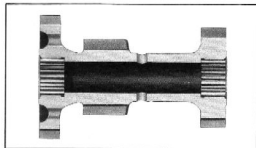

Fig. 11—Countergear Roller Bearings
1. Coat the roller bearing area in each end of the gear with cup grease. Insert countershaft in the gear, and place gear and shaft on the bench with the large diameter end of the shaft down. Insert twenty-five rollers in this end of the gear, then reverse the position of the counter gear on the bench and insert twenty-five rollers at the opposite end as shown in Fig. 11. Remove countershaft (note that the rollers remain in place and flush with the ends of the gear).